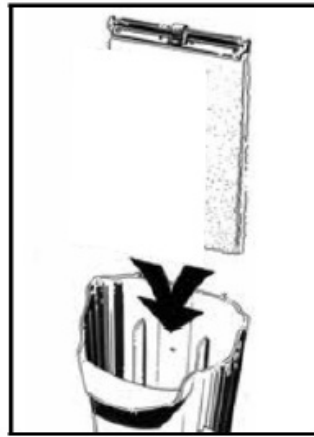

Fig. 3
3. Insert the filter cartridge and Bio-Foam® as shown (Fig. 3). (Note: The front of the Bio-Foam® is marked "front" and should face the front of the internal filter.)